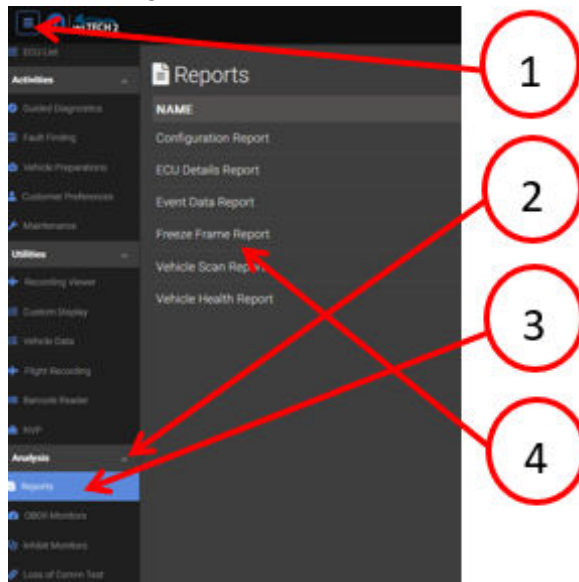

Fig. 1
4. In the wiTECH tool, select the hamburger icon in the upper left corner Fig. 1.
5. Navigate down to Analysis on the left column and select the drop down arrow Fig. 1.
6. Select Reports Fig. 1.
7. Select Freeze Frame Report Fig. 1.